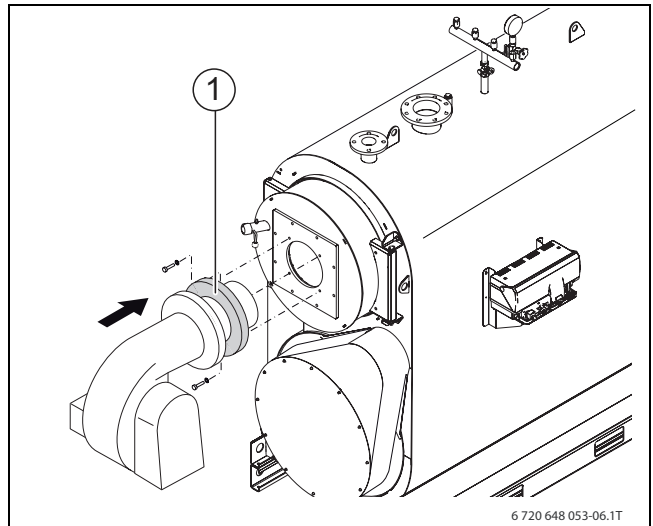

Fig. 17 Fitting the gasket
- ▶ Push a gasket (→ Fig. 17, [2]) onto the burner connector.